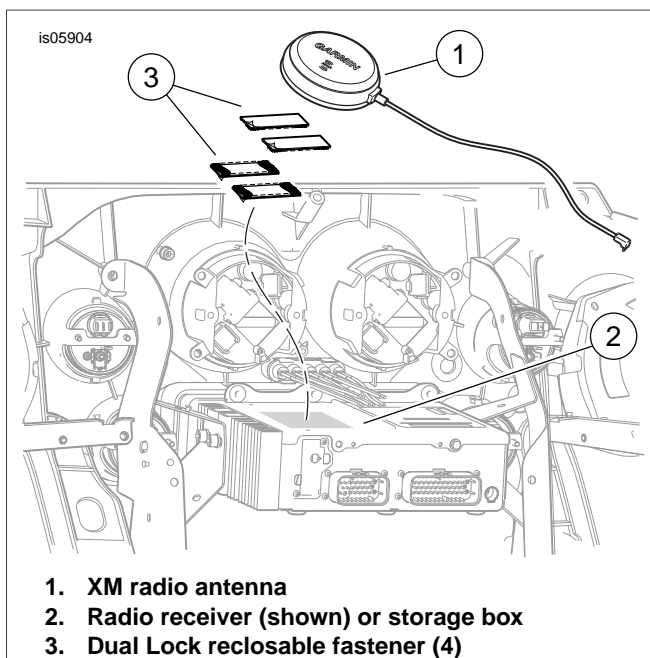

Figure 1. XM Radio Antenna Installation (FLH Models)
See Figure 1. The XM antenna (1) will be positioned on top of the AM/FM radio receiver (2), or storage box (on models without an AM/FM radio).